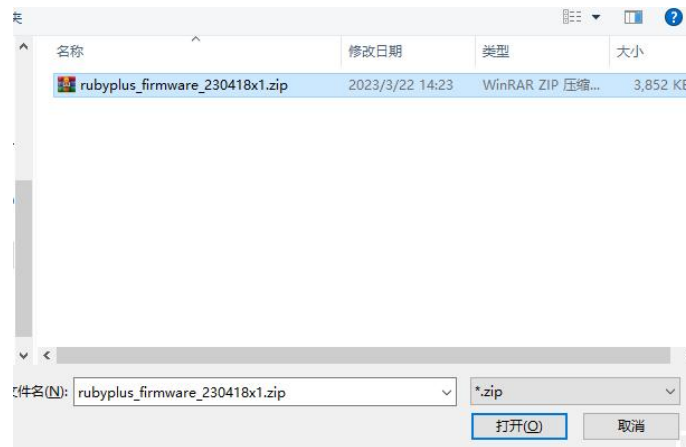

Figure 21 Step 2 - Select Firmware for Upgrade
- 2) Select the folder containing the corresponding firmware for the upgrade, then click "Open" (avoid using Chinese characters in the file path), as shown in Figure 21 .